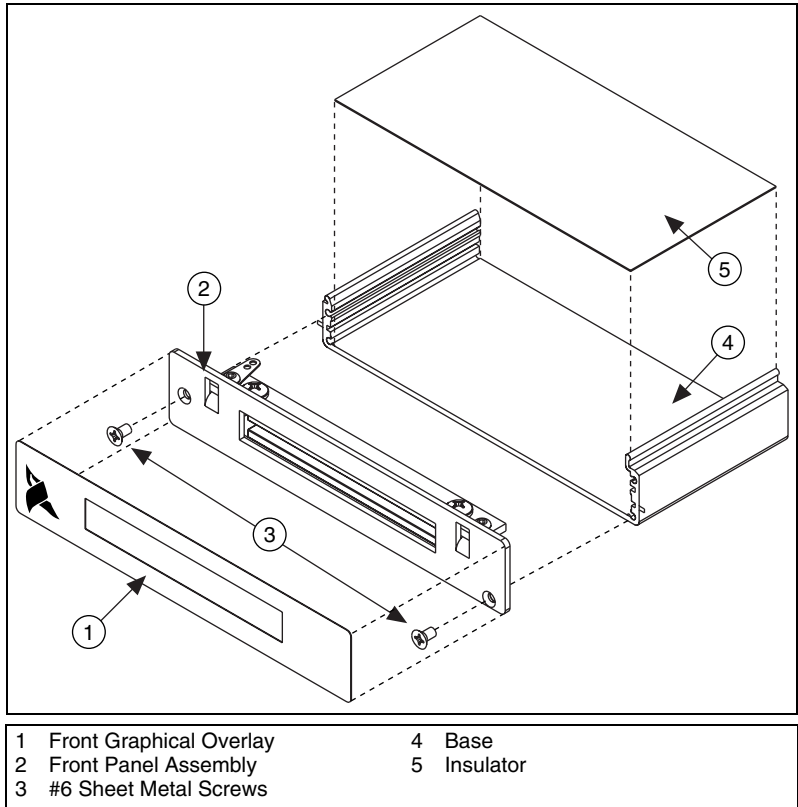

Figure 3. Installing the Front Panel Assembly
1. Adhere insulator to the base as shown in Figure 3.
2. Attach front panel assembly to base using two #6 sheet metal screws as shown in Figure 3.
3. Adhere front graphical overlay to front panel as shown in Figure 3.